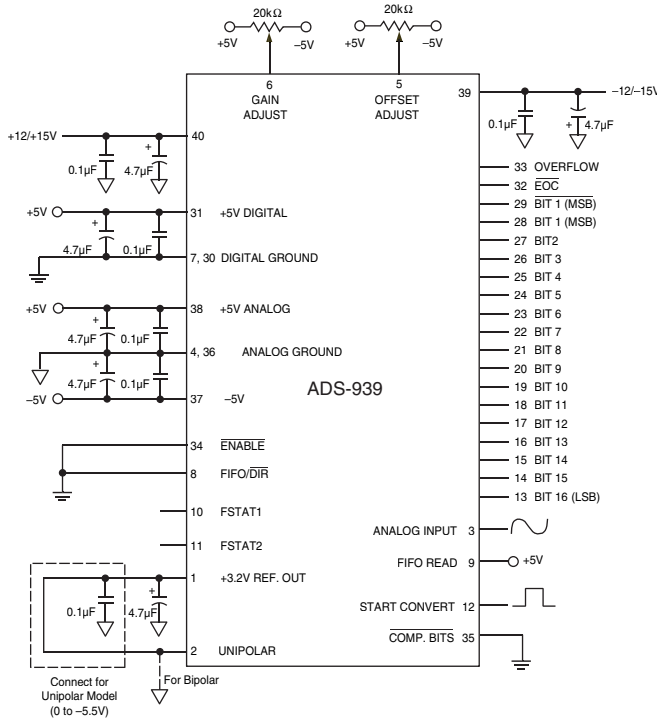

Figure 2. Connection Diagram
2. The ADS-939 achieves its specified accuracies without the need for external calibration. If required, the device's small initial offset and gain errors can be reduced to zero using the adjustment circuitry shown in Figure 2. When using this circuitry, or any similar offset and gain calibration hardware, make adjustments following warm-up. To avoid interaction, always adjust offset before gain. Tie pins 5 and 6 to ANALOG GROUND (pin 4) if not using offset and gain adjust circuits.
Connect the converter per Figure 2. Any offset/gain calibration procedures should not be implemented until the device is fully warmed up. To avoid interaction, adjust offset before gain. The ranges of adjustment for the circuits in Figure 2 are guaranteed to compensate for the ADS-939's initial accuracy errors and may not be able to compensate for additional system errors.